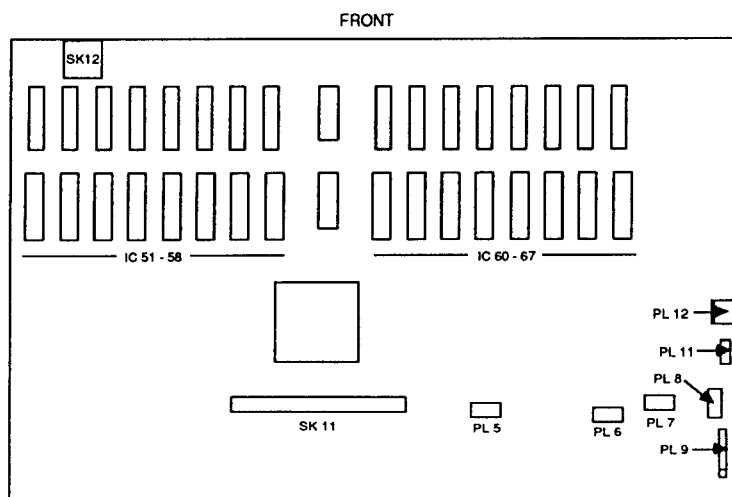

FIG. 2 MAIN BOARD
4. Unplug the following cables from the main board (see fig. 2):